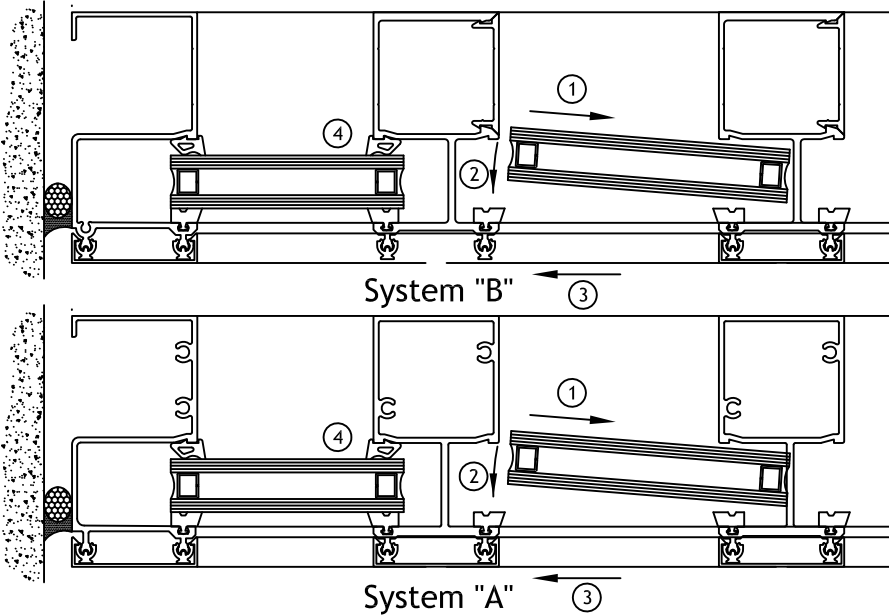

Figure 27
- 8.3 Set glass in opening. Ensure that glass bite is equal on all sides. **SEE FIGURE 27 & 28, page 26** for glazing sequence. **CAUTION: Be certain that glass is placed firmly against exterior gasket to insure a proper seal and to avoid binding of the glass on the setting block.**